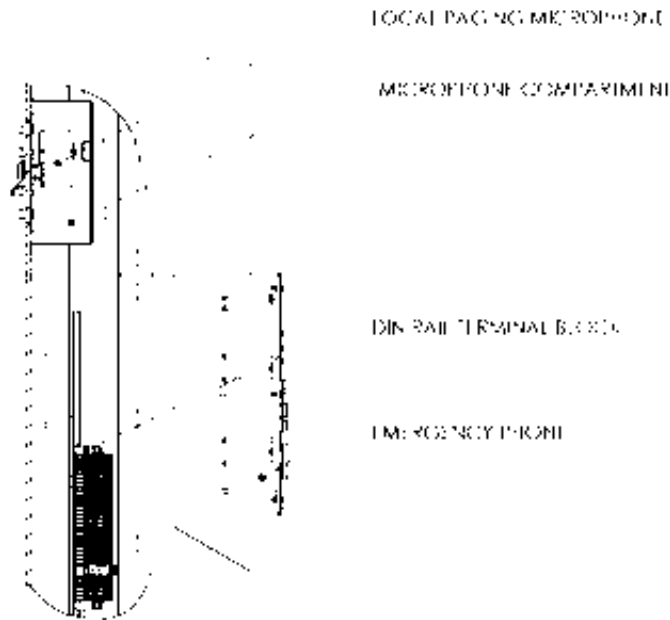

Figure 3. Installing the Local Paging Microphone, DIN Rail Terminal Block and Emergency Phone.
7. Install the DIN rail on the two welds studs behind the phone opening. Install the local paging microphone and mounting bracket inside the microphone compartment as shown in **Figure 3**. Attach the instructional label below (provided) on to the inner surface of the microphone compartment door.